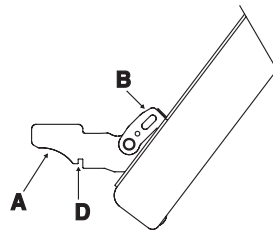

FIG. 6
- Open the door completely and lift the 2 levers "B" (fig. 6);